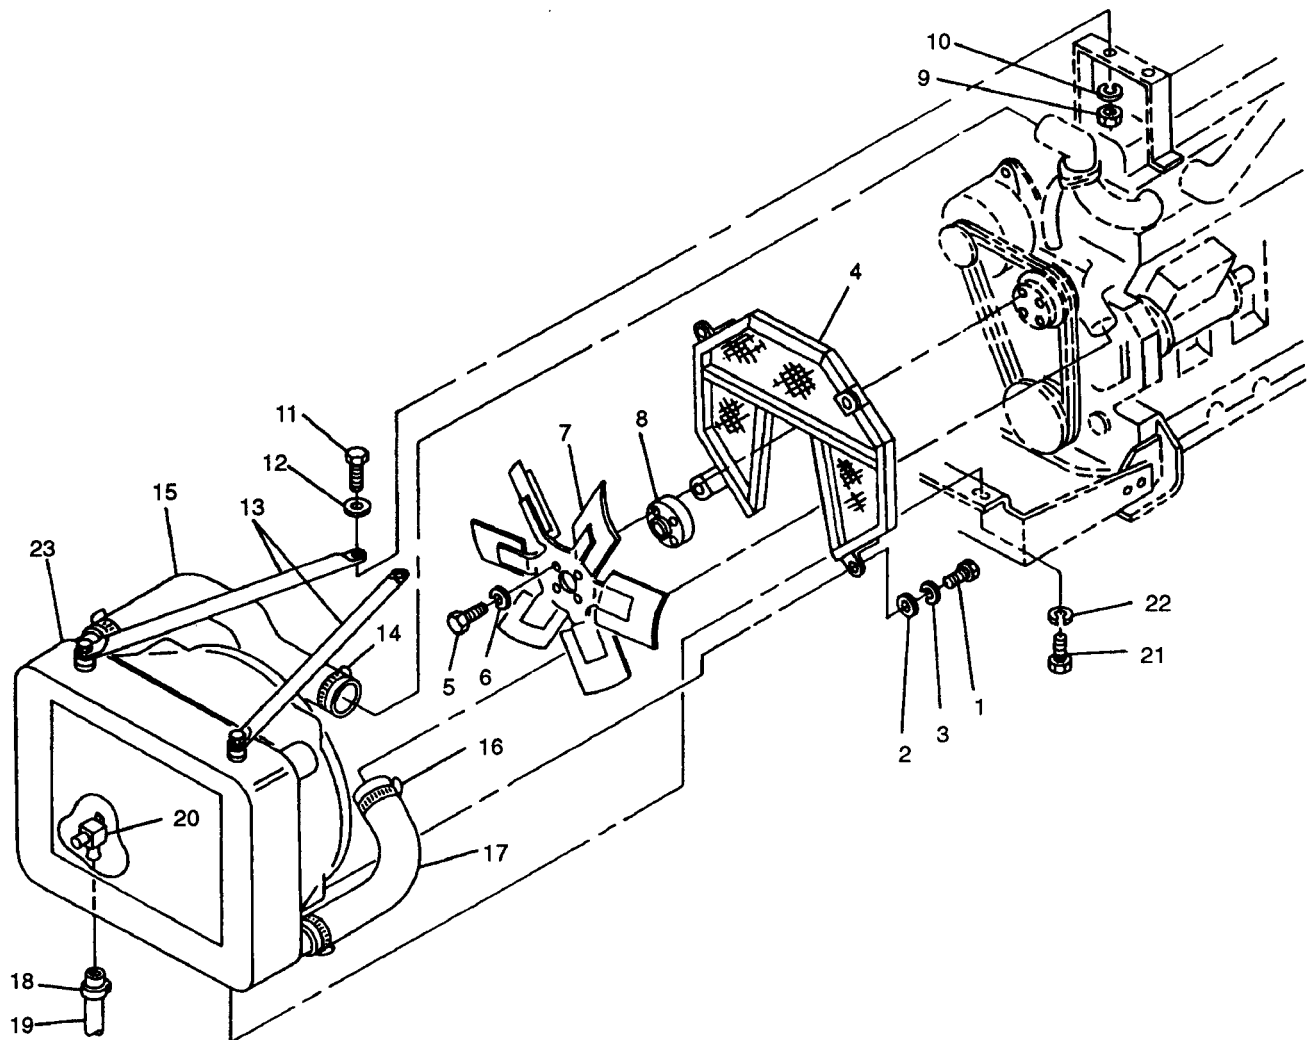

FIGURE 3-5. Radiator Assembly
- r. Remove bolts (1, FIGURE 3-5), washers (2), lockwashers (3), and fan guard (4) from radiator assembly (23).
- s. Remove bolts (5), lockwashers (6), fan (7), and spacer (8) from water pump pulley.
- t. Remove nuts (9), lockwashers (10), bolts (11), and washers (12) securing support rods (13) to engine lifting bracket.
- u. Loosen clamp (14) at thermostat housing and disconnect hose (15).
- v. Loosen clamp (16) at water pump and disconnect hose (17).
- w. Loosen clamp (18) and disconnect hose (19) from radiator drain valve (20).
- x. Remove bolts (21) and lockwashers (22) securing radiator assembly (23). With the aid of an assistant, remove radiator assembly (23).